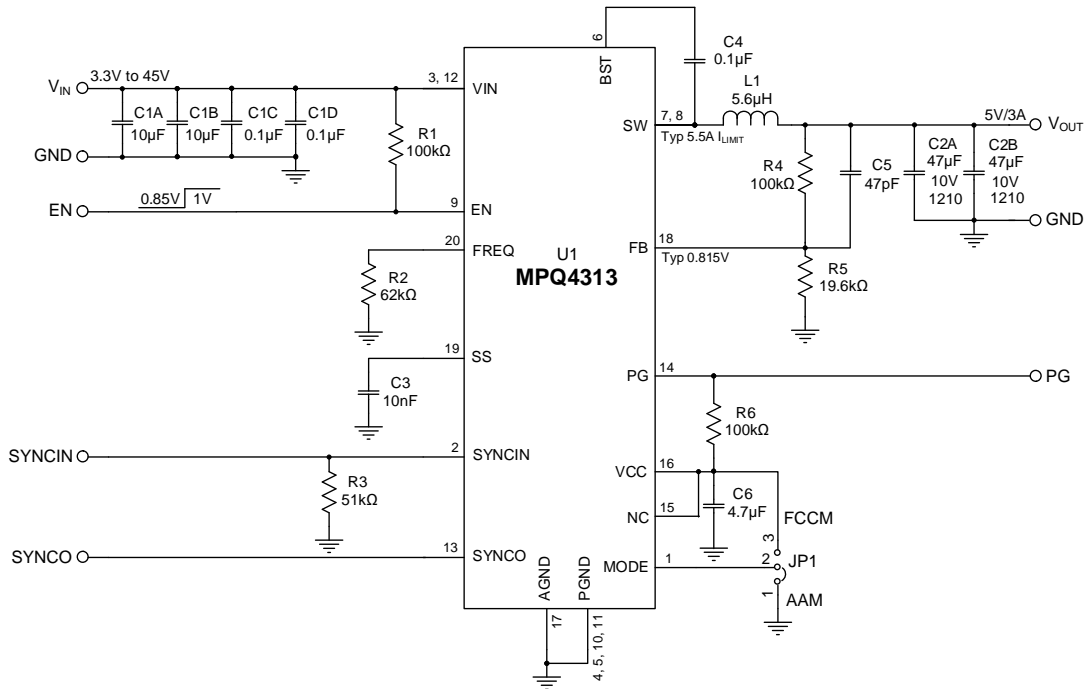
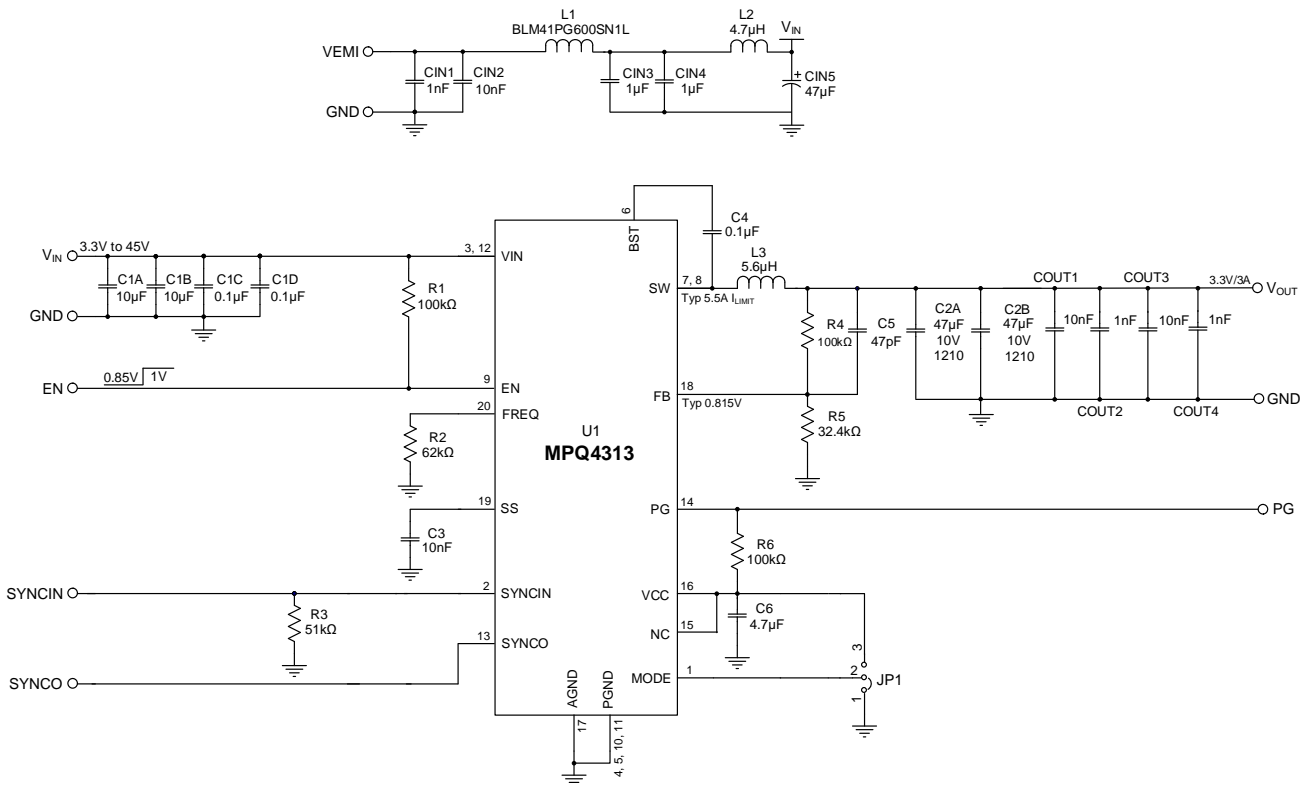

Figure 12: Typical Application Circuit (V_{OUT} = 5V, f_{sw} = 470kHz)
Figure 13: Typical Application Circuit (V_{OUT} = 3.3V, f_{sw} = 470kHz with EMI Filters)
10) The recommended PCB layout is based on Figure 12.
Updated the Figure 12, Figure 13, and Figure 14 to include the typical I _{LIMIT}	33–34